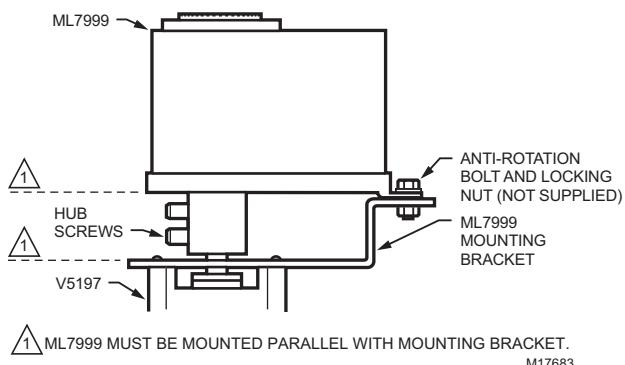

Fig. 3. Mounting the ML7999 on the V5197 Valve.
4. Install the mounting bracket accessory (not included), if needed. See Fig. 3.